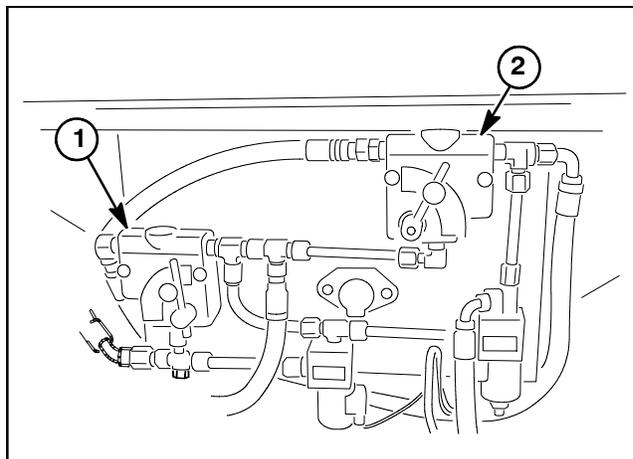

Figure 29
ProPass machines with standard hydraulic controls use two (2) control valves for adjusting the speed of the floor and rear option (twin spinner or conveyor) motors. These control valves are located on the front of the hopper (Fig. 29).